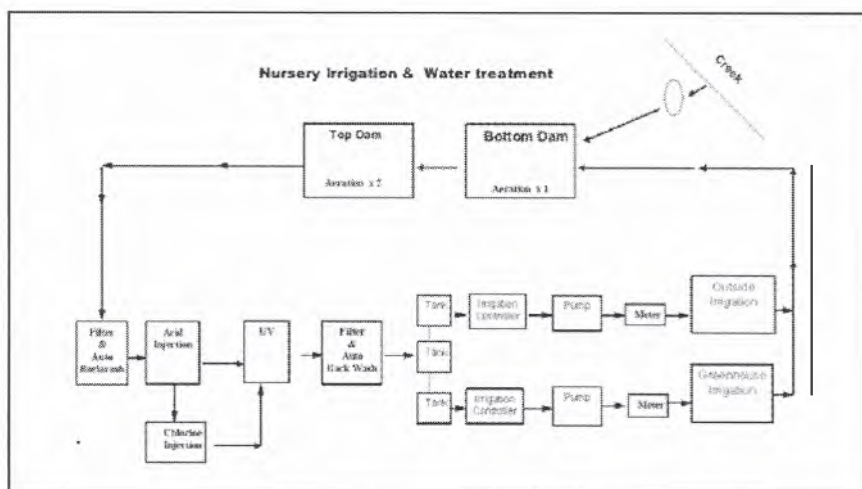

Figure 1. The recycling system at Alstonville Palms.
Water is reused many times in our closed system. Water is added to the system when it rains and is lost through evaporation. In dry years we may top up our dams from the creek with 3 or 4 megaliters (ML). We have managed only on the bottom 6-ML dam. Between the two dams we have 17 ML of water storage. Water quality is much easier to manage with two. Water treatment is expensive so we decided we needed to use as little water as possible to water our plants so water efficiency was the first issue we tackled. We have also chosen a lot of low-water-usage crops. Initially, we began with one filter, a chlorine injection system, one tank, and a couple of small irrigation controllers. Over 10 years we have added a lot of extra pieces to make the system work (Fig. 1).